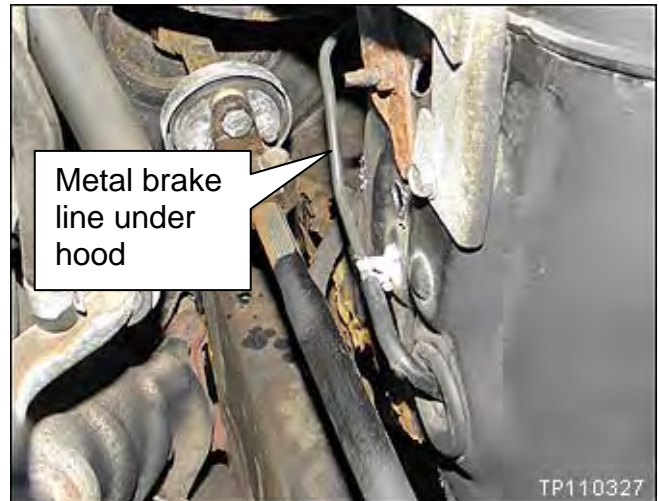

Figure RB27
- Inspect the line under the hood (see Figure RB27)